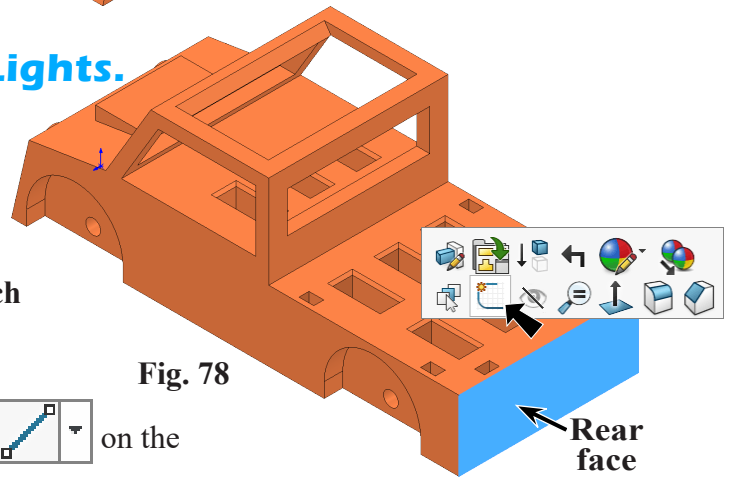

Fig. 78
Step 1. Rotate view to rear, **Fig. 78**. To rotate view, **Shift** click the **Y** axis of the **Reference Triad**  one time.
Step 2. Click the **rear face of bed** and click **Sketch**  on the context toolbar, **Fig. 78**.